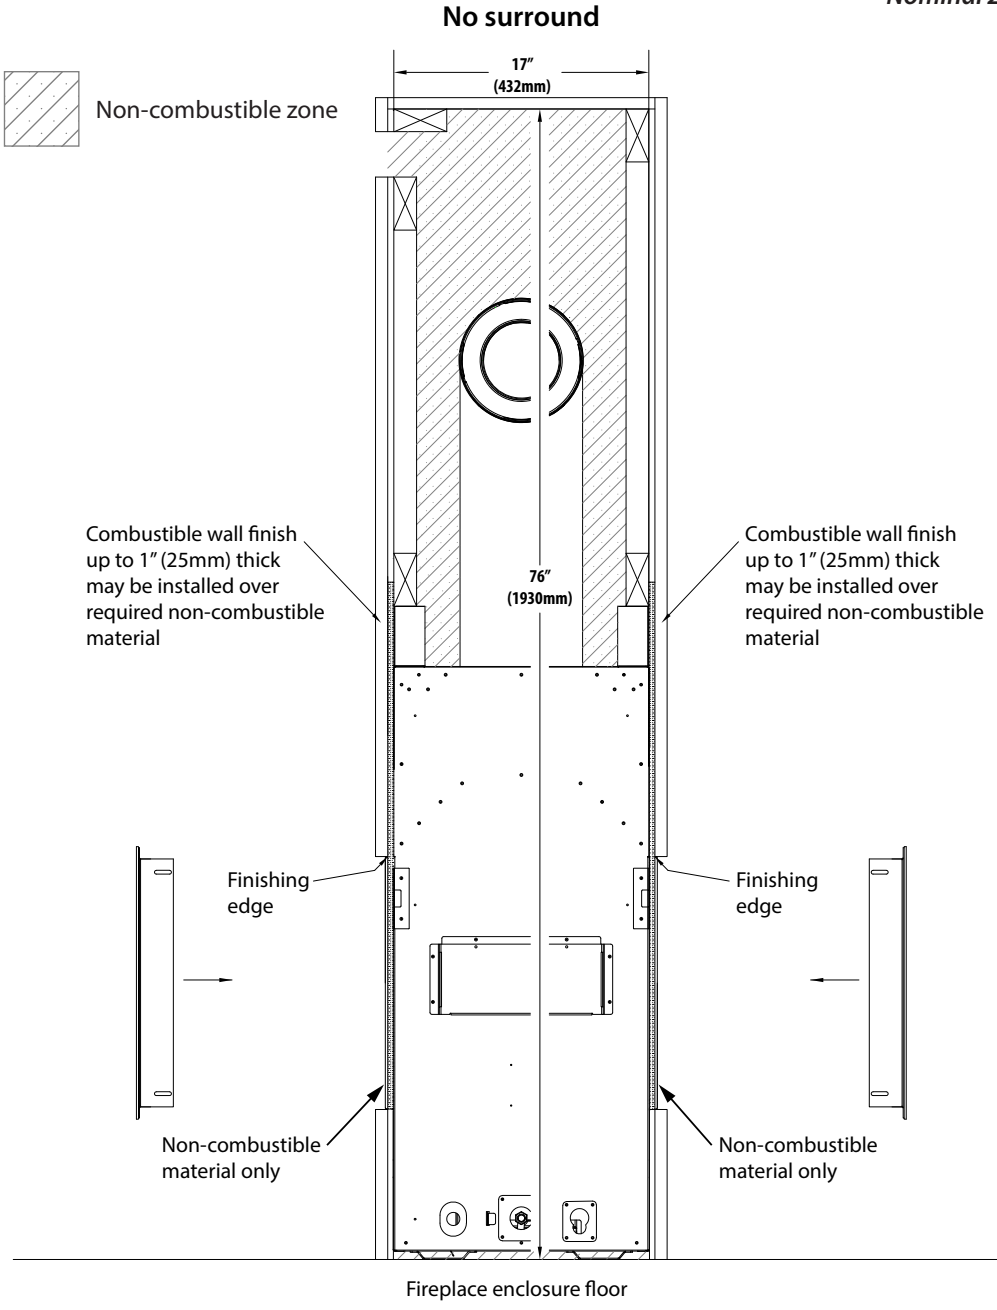

FIGURE 4.13 Combustible Wall Finish up to 1" (25mm) thick - No Surround (single opening vented cavity installation shown)
- FIGURE 4.13 on page 46 shows installation of combustible wall finish up to 1" (25mm) thick for Komfort Zone Kit(s) and Vented Cavity installations. For KZK-054 and KZK-1510A installations, reference the manuals included with the kit.